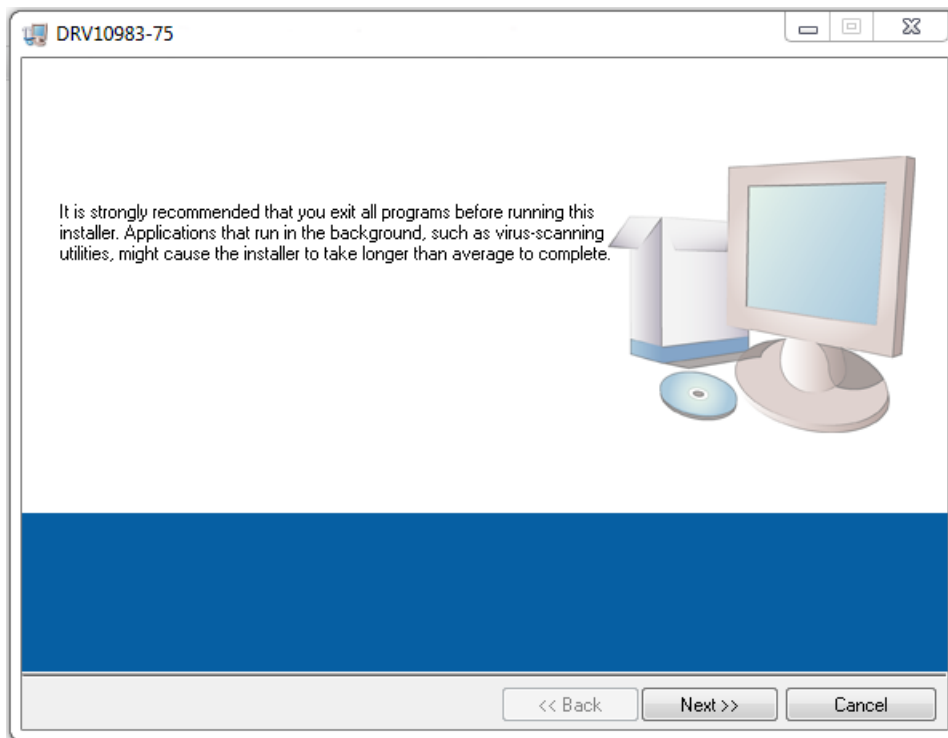

Figure 15. GUI Installation Initialization
2. A screen shown in Figure 15 appears. Press the *Next >>* button.